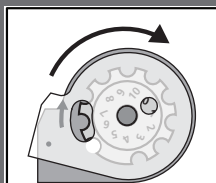
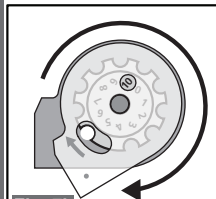

Fig. 7a
Fig. 7b
- Lift the transparent cover and turn clockwise along the direction of the arrow until it stops. (Fig. 7a, Fig. 7b)